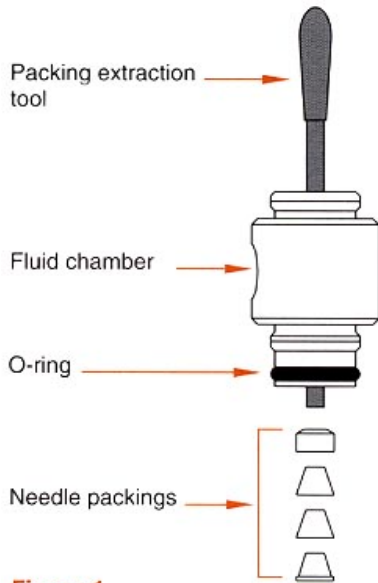

Figure 1
5. Remove the needle packings from the fluid chamber, using tool in the figure with the valve. Insert through nozzle end of the fluid chamber and gently push out the packings (see Figure 1).